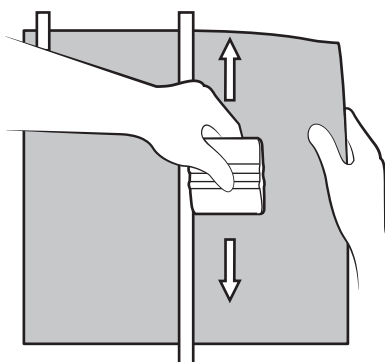

FIGURE 7
6. Gently hold the graphic away from the surface with one hand using care not to wrinkle or skew the graphic. Allow the adhesive to touch the substrate as pressure is applied during squeegeeing. Squeegee the graphic beginning at the center of the tape hinge and working outward to the closest edge. See FIGURE 7. Use firm pressure on the plastic applicator and overlap the strokes.